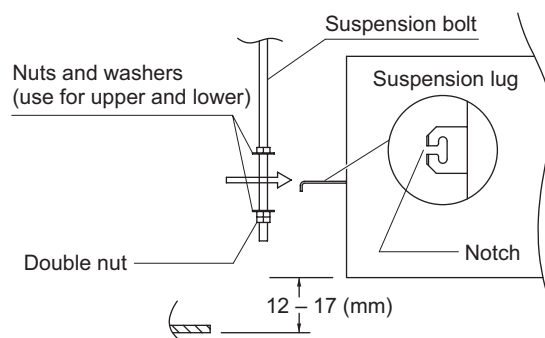

Fig. 2-45
- (3) Thread the 3 hexagonal nuts and 2 washers (field supply) onto each of the 4 suspension bolts as shown in Fig. 2-45. Use 1 nut and 1 washer for the upper side, and 2 nuts and 1 washer for the lower side, so that the unit will not fall off the suspension lugs.
- (4) Adjust so that the distance between the unit and the ceiling bottom is 12 to 17 mm. Tighten the nuts on the upper side and lower side of the suspension lug.
- (5) Remove the protective polyethylene used to protect the fan parts during transport.
- (6) Check with a tape measure or carpenter's level.